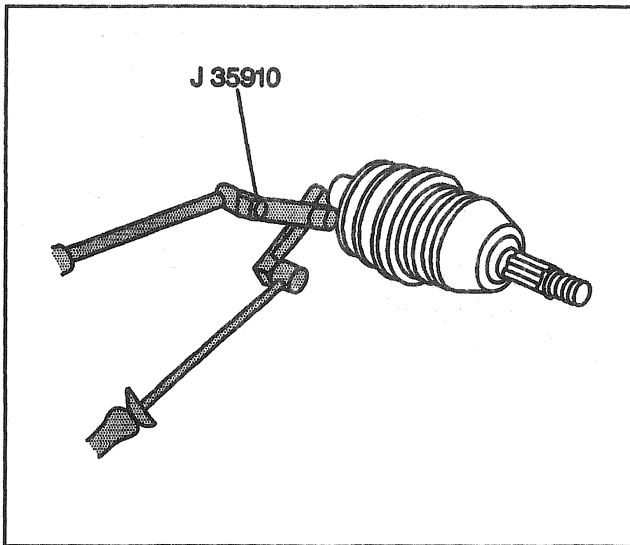

Figure 54—Removing C/V Joint
←→ Remove or Disconnect (Figure 54)
2. Small seal-retaining clamp on axle shaft using J 35910 (Figure 54).